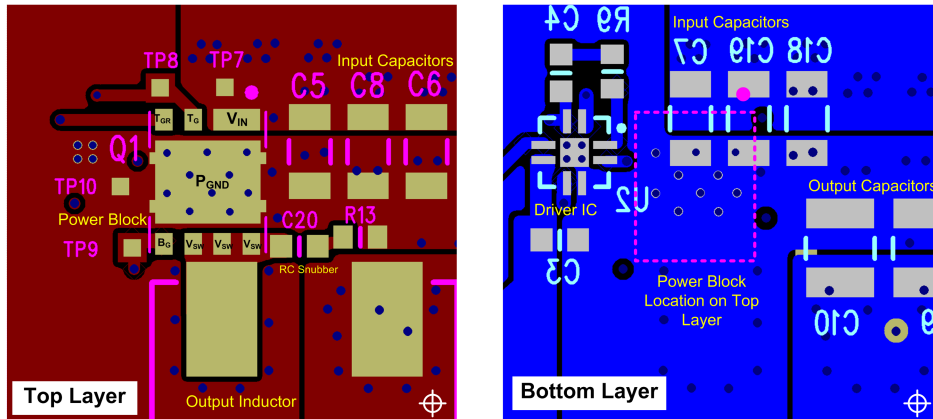

Figure 34. Recommended PCB Layout (Top Down View)
- The placement of the input capacitors relative to the power block's VIN and PGND pins should have the highest priority during the component placement routine. It is critical to minimize these node lengths. As such, ceramic input capacitors need to be placed as close as possible to the VIN and PGND pins (see Figure 34). The example in Figure 34 uses 6 × 10-μF ceramic capacitors (TDK C3216X5R1C106KT or equivalent). Notice there are ceramic capacitors on both sides of the board with an appropriate amount of vias interconnecting both layers. In terms of priority of placement next to the power block, C5, C7, C19, and C8 should follow in order.
- The switching node of the output inductor should be placed relatively close to the power block VSW pins. Minimizing the node length between these two components will reduce the PCB conduction losses and actually reduce the switching noise level. In the event the switch node waveform exhibits ringing that reaches undesirable levels, the use of a boost resistor or RC snubber can be an effective way to reduce the peak ring level. The recommended boost resistor value will range between 1 Ω to 4.7 Ω depending on the output characteristics of driver IC used in conjunction with the power block. The RC snubber values can range from 0.5 Ω to 2.2 Ω for the R and 330 pF to 2200 pF for the C. Refer to Snubber Circuits: Theory, Design and Application (SLUP100) for more details on how to properly tune the RC snubber values. The RC snubber should be placed as close as possible to the Vsw node and PGND see Figure 34 ⁽¹⁾
- Use the smallest drill size allowed in your design. The example in Figure 34 uses vias with a 10-mil drill hole and a 16-mil capture pad.